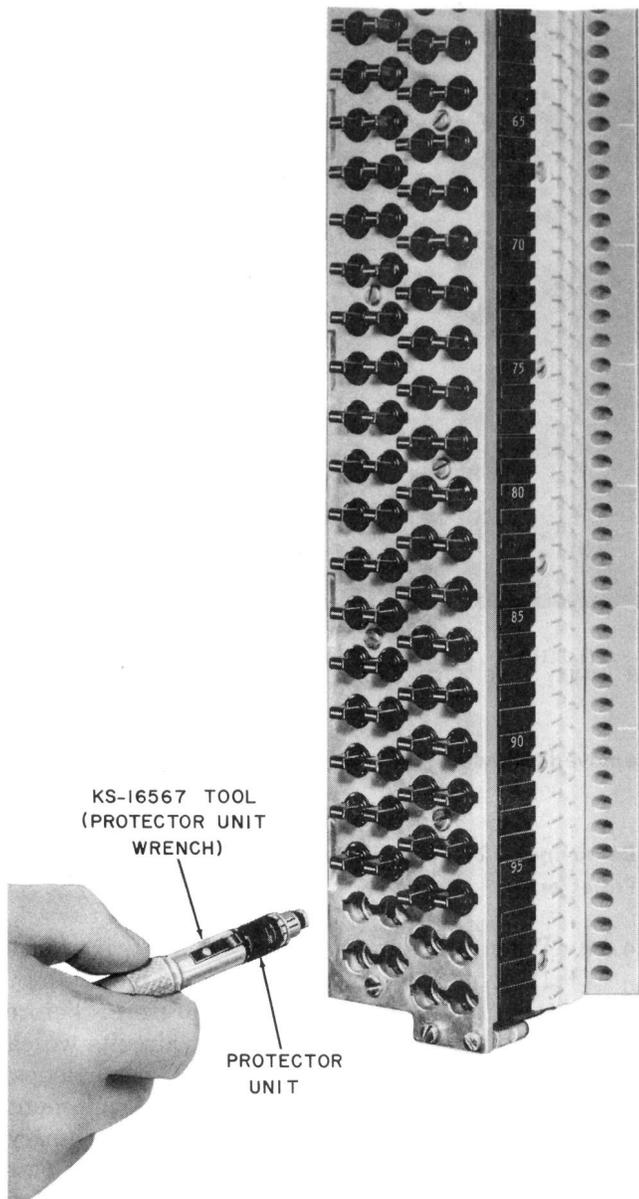

Fig. 5—Removing Protector Unit From 300-Type Connector With KS-15567 Tool
- (1) If the unit is in the working position (mark shown horizontal), turn the unit 45 degrees counterclockwise and remove it. The KS-16567 protector unit wrench may be used for this operation (Fig. 5).
- (2) If the unit is in the open position (mark shown vertical), turn the unit 45 degrees clockwise and remove it.
- (d) If the test center requests that the protector unit be inspected, wear insulating gloves and remove the protector unit from the frame with the KS-16567 tool (Fig. 5).